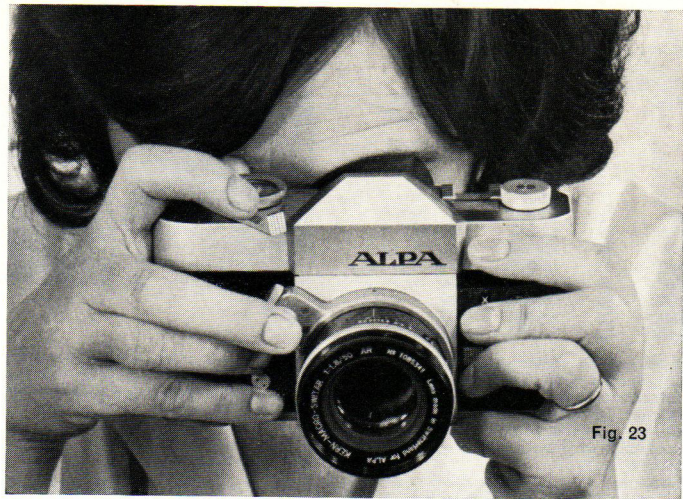

Fig. 23
b) Correct Shutter Speed for given Aperture (Fig. 23)
Fig. 23 shows the method of holding the camera with preselected f/stop and turning the speed dial to center the needle.